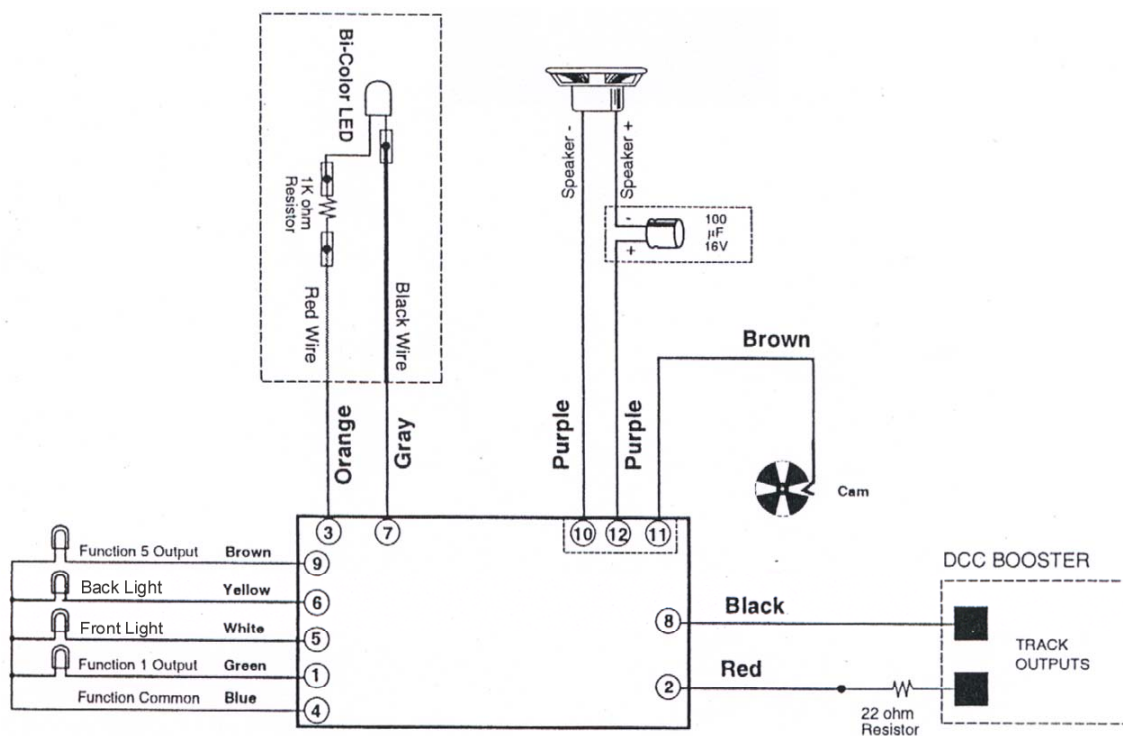

Figure 2 - General connection diagram
4. Connect the other purple lead (pin 12) to the positive (+) speaker terminal. A 33 $\mu$ F, 16V capacitor must be wired in series as shown in Figure 2.